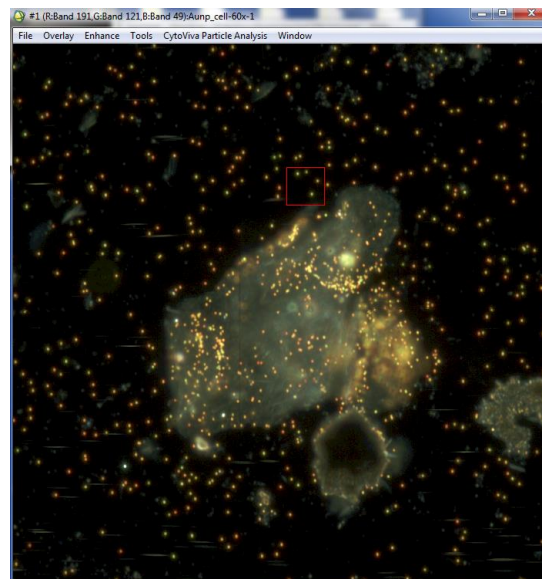

Figure 3.1a. Au nanoparticles and cells
- Load the image into a new color display (Figure 3.1a).